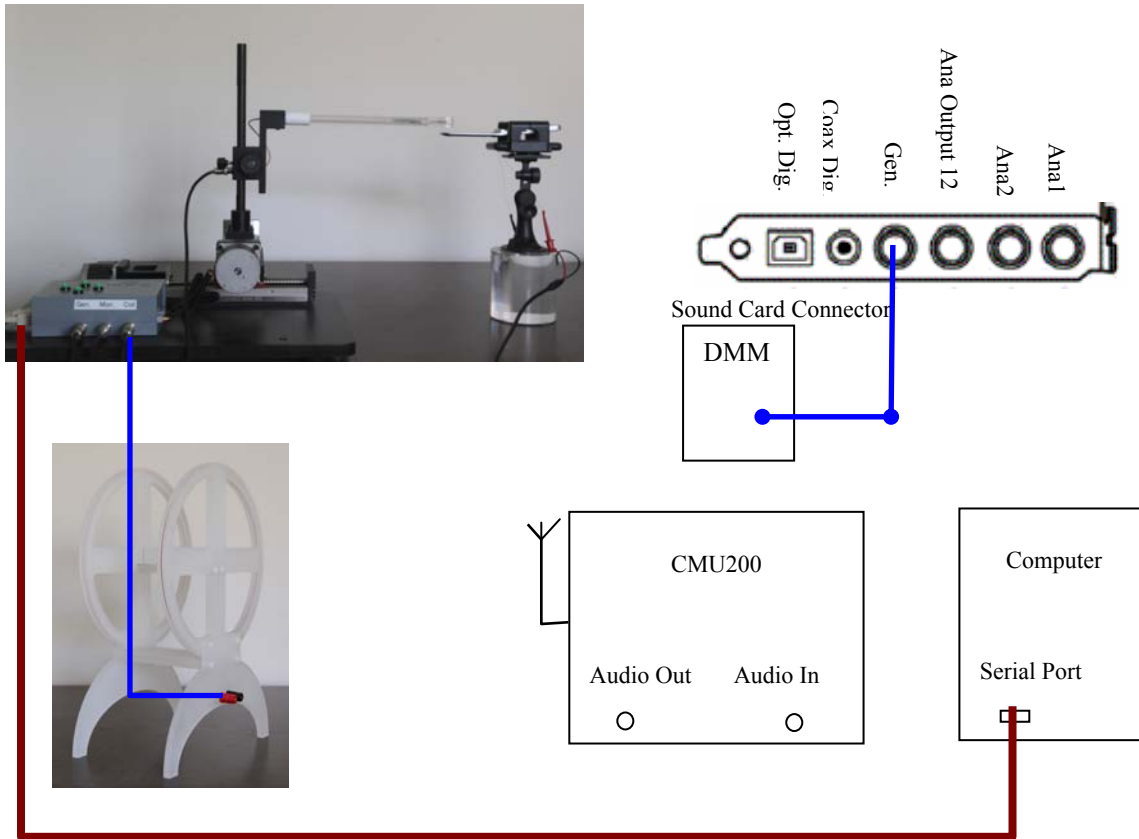

Fig. 2-12 Calibrate Generator.
- Connect Gen to a DMM (Digital Multi-Meter as shown in Fig. 2-12).